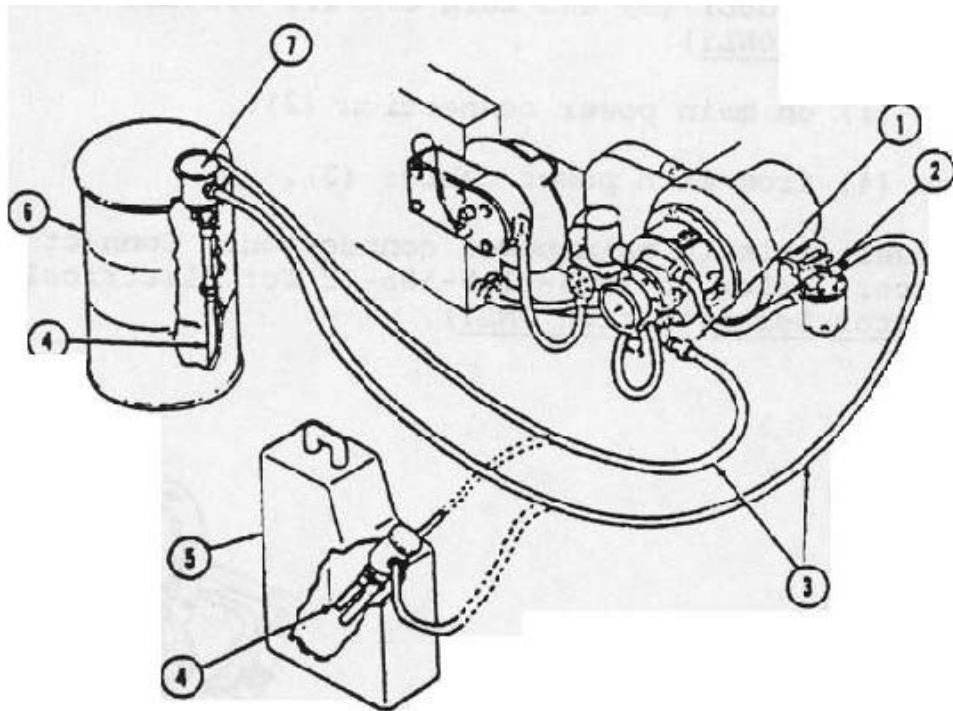

Figure 3-23
8. Connect the dryer fuel lines. (See Figure 3-23)